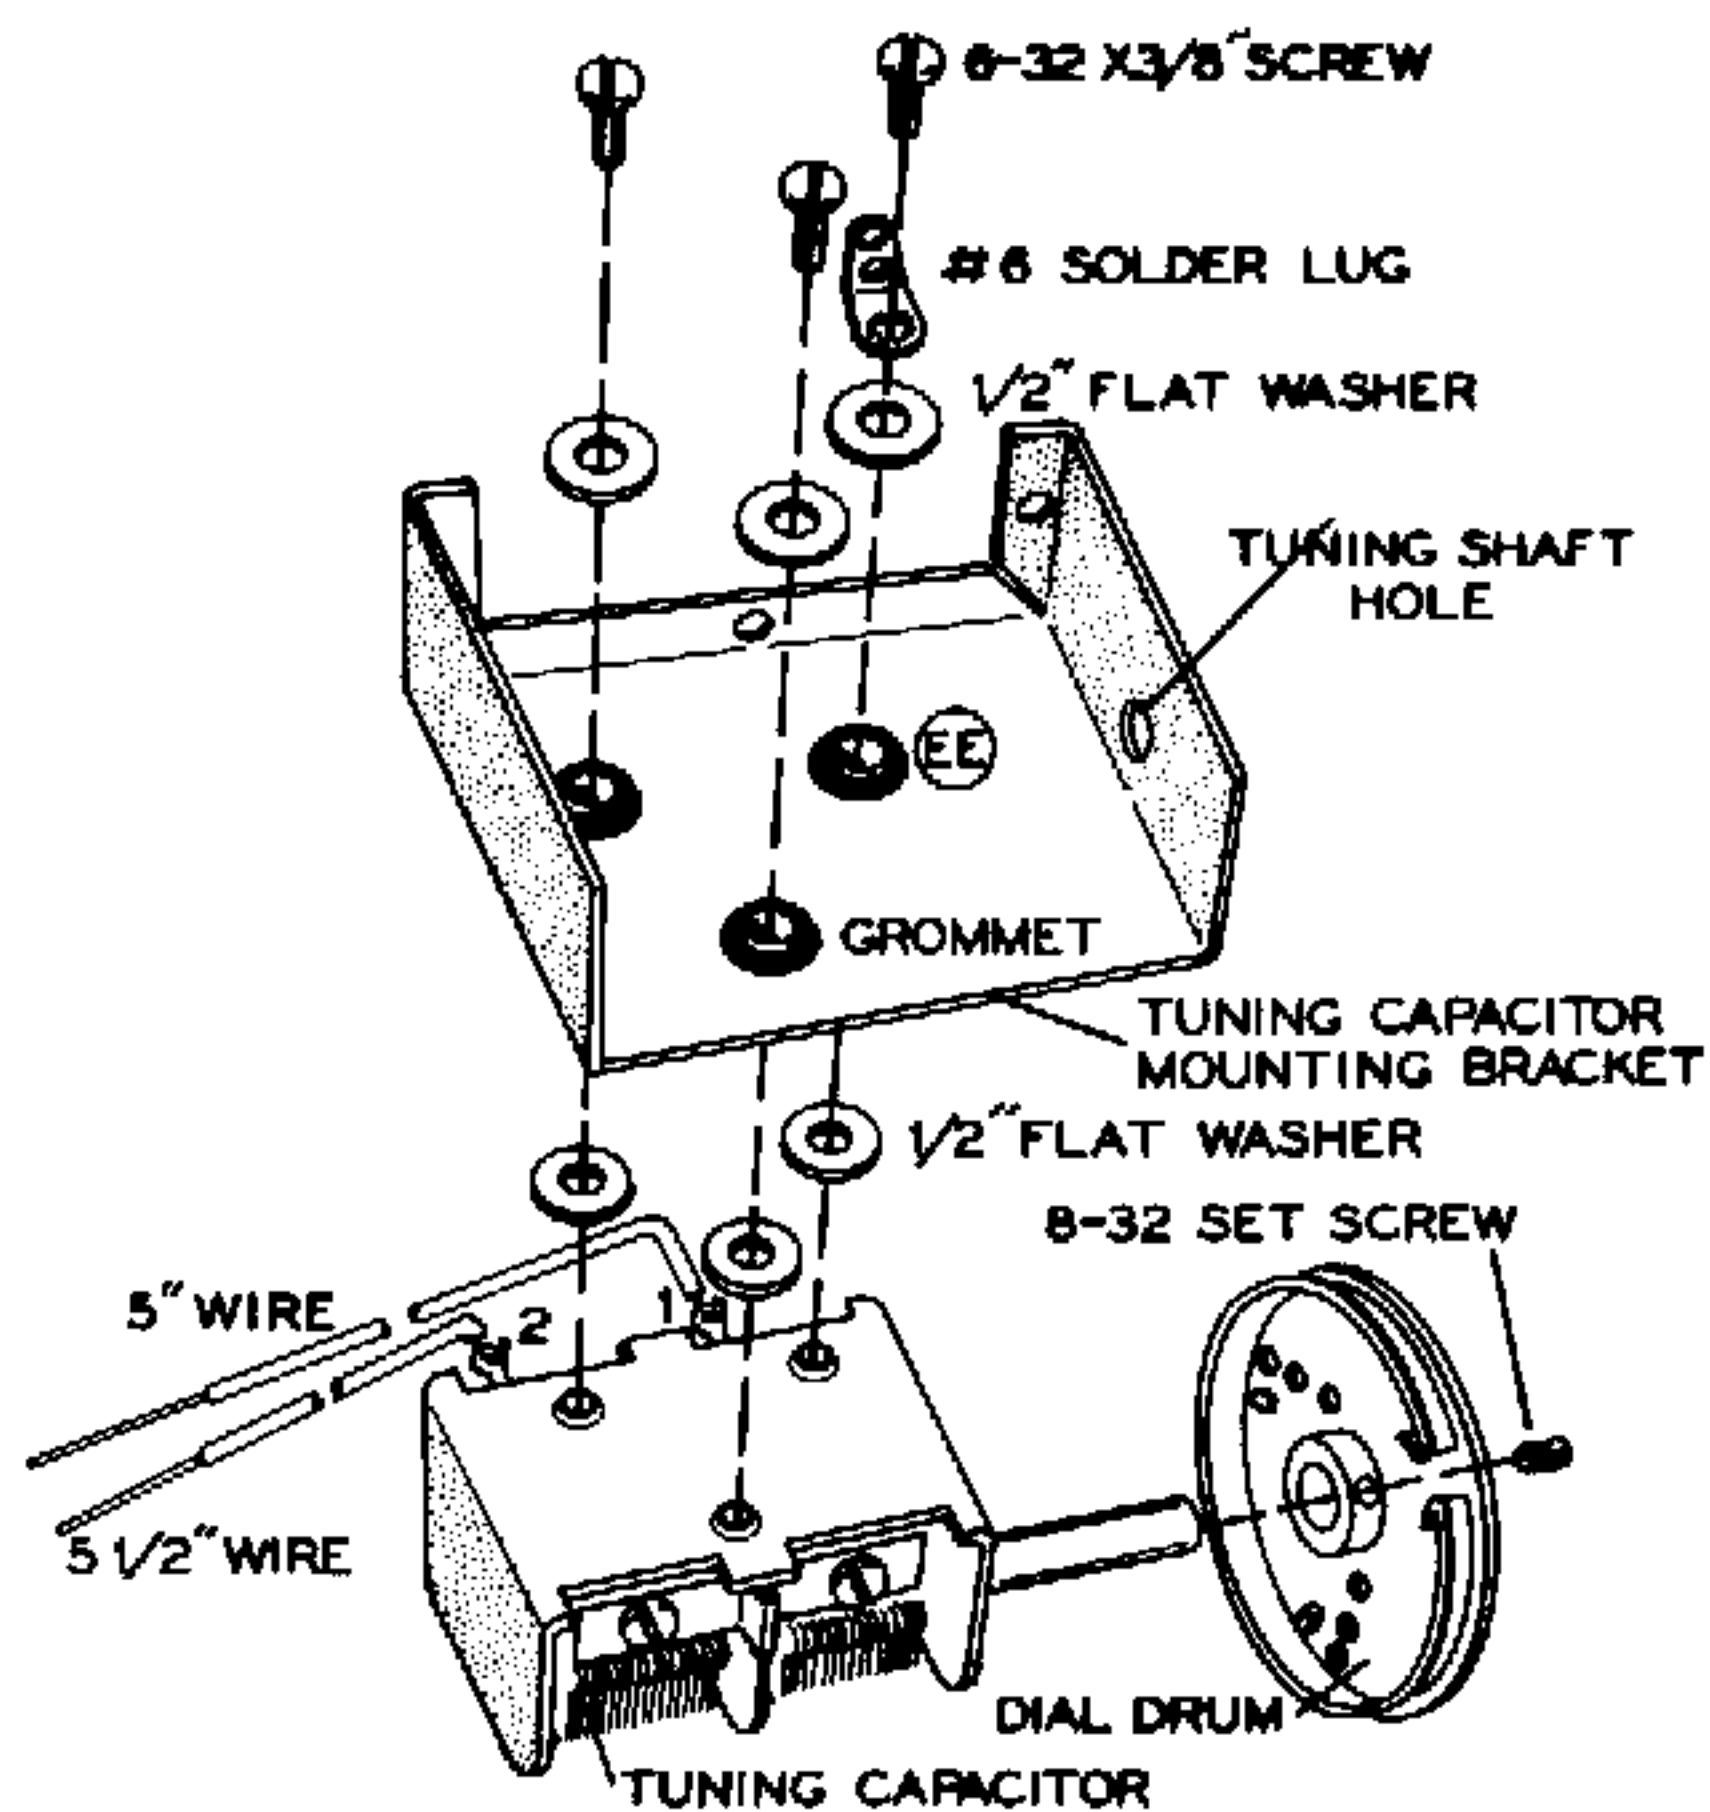

Figure 18
- (✓) Locate the TUNING capacitor mounting bracket and insert three 3/16" rubber grommets in the three large holes on the bracket, as shown in Figure 18.
- (✓) Make sure the plates of the TUNING capacitor are fully meshed and position it, with the mounting holes up, on your working area. See Figure 18.
- () Carefully position the TUNING capacitor mounting bracket on the MAIN TUNING capacitor as shown in Figure 18, and secure with three 6-32 x 3/8" screws, three 1/2" flat washers, and a #6 solder lug. The solder lug goes under the mounting screw at EE.